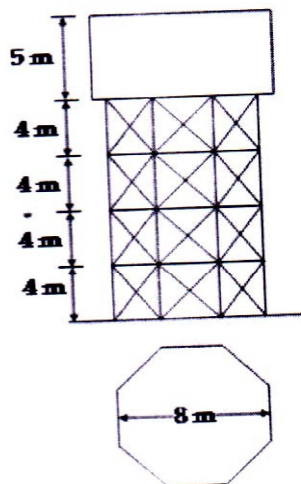

Fig. 2
b) An elevated water tank is 10 m in diameter and 5 m high. The depth of water is 4.70 m. It is supported on a concrete staging of 8 columns located on the circumference of a circle of 8 m diameter. The height of the staging is 16 m and horizontal bracing is provided at a vertical spacing of 4 m. The circular columns are 500 mm in diameter. Steel bars of 25 mm diameter are provided as diagonal bracing in all the bays as shown in Fig.2. The structure is located in Zone III and founded on Type III type of soil. The weight of the empty tank may be taken as 2000 kN. Obtain the equivalent stiffness for the staging. Also, obtain the base shear for